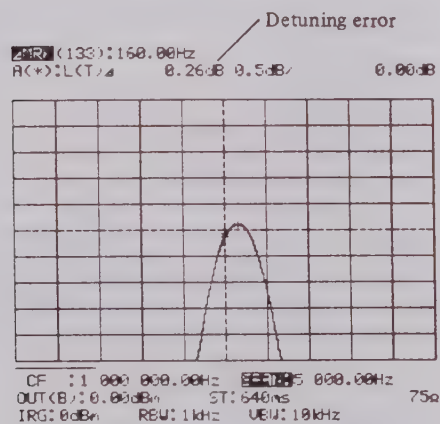

Fig. 3-37 Detuning Error
- 8 When the Δ marker is set as shown in Fig. 3-37, the digital display indicates a detuning error.